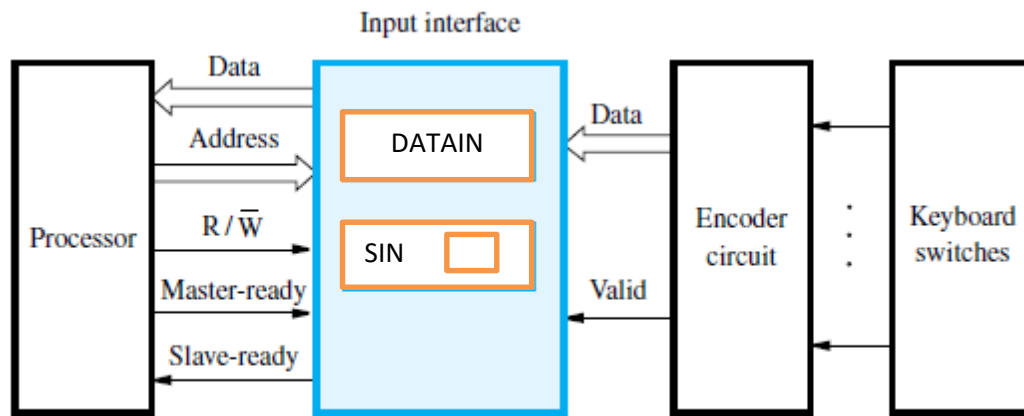

Figure 7.10 Keyboard to processor connection.
Figure 7.10 shows a circuit that can be used to connect a keyboard to a processor. There are only two registers: a data register, DATAIN, and a status register, SIN
- The information is sent to the interface-circuits (Figure 7.10).